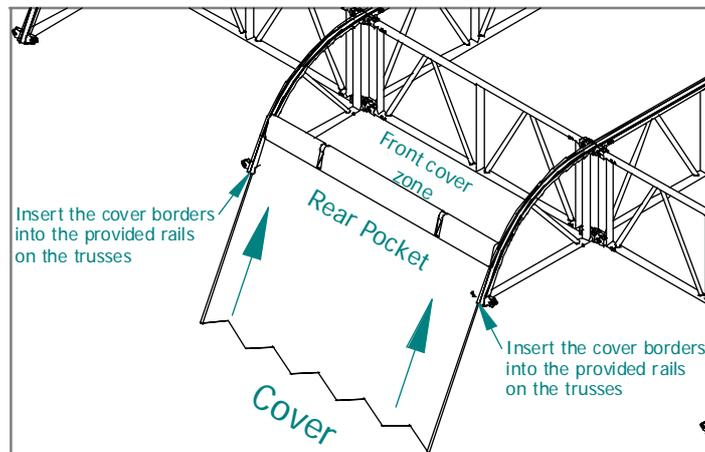

Fig. 10
4. Insert the edges of the fabric sheet into the special guide tracks provided on the FL76R trusses, and slide it along the track by gently pulling until it reaches the back part of the covering structure (fig. 10).